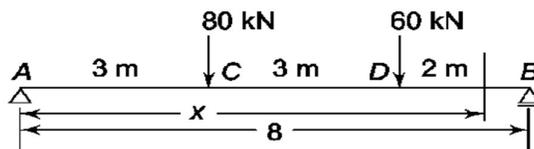

Figure 13a
13. (a) Determine the deflection under each load for the given simply supported beam shown in Figure 13a,  $E = 210\text{GPa}$  and  $I = 30000\text{ cm}^4$  (16) 3 AP